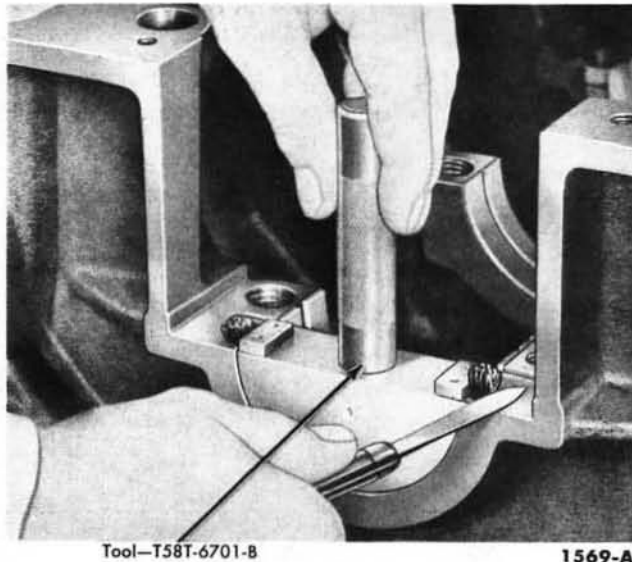
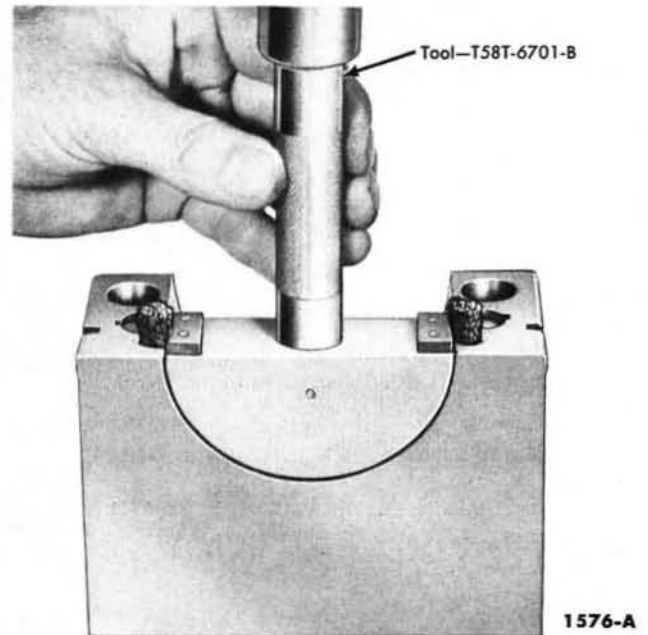

FIG. 41—Seal to Block Installation
FIG. 42—Seal to Bearing Cap Installation
1. Be sure that all bearings, crankshaft journals, and the rear journal oil seal grooves are clean. Install a new rear journal oil seal in the block (Fig. 41) and rear main bearing cap (Fig. 42). After installation, cut the